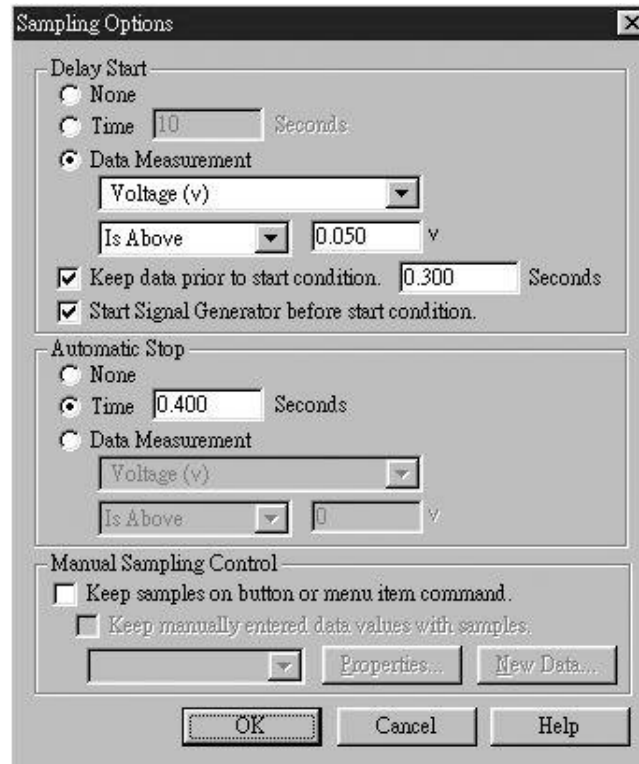

Figure 4
6. From the screen interface window, you click on the function key of  , the window of “Experiment Setup” will show. And then, you click on the function key,  , and activate a window of “Sampling Options”, as Figure 4 :
The setting of the sampling options shown on Figure 4 is like: